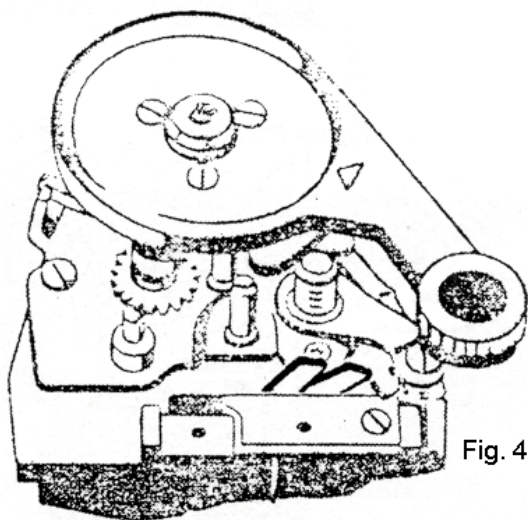
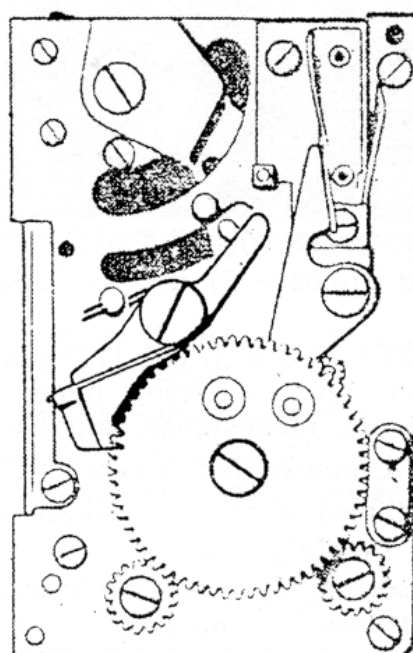

Fig. 4
Fig. 5
- h) Cock the shutter. The mirror must go 1mm past the mirror catch lever 370.06 U6. For the mirror to catch, it may be necessary to bend the adjustment lobe on the cocking segment (see Fig 4). If necessary reset cam-disc 370.06 U6 such that the shutter release lever [the catch for the lower shutter wheel] catches when the shutter is tensioned (see Fig. 5).